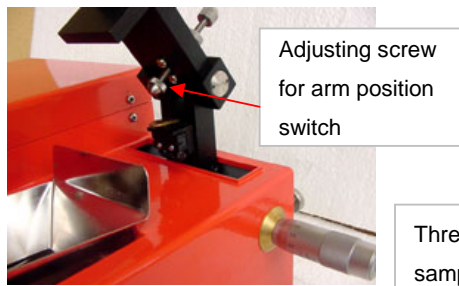

Fig. 2
- (3) Please check position switch of swing arm to be sure if it is at suitable position. If position screw is too long it may cause machine to stop running. (as Fig. 2)